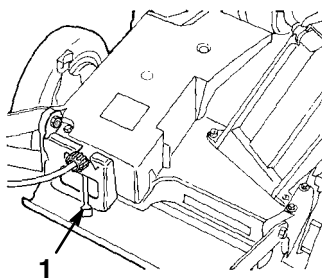

Figure 10
4. Move the ground speed control to the  (*Neutral*) position (Fig. 10).
The lawn mower has three ground speeds. 1 is slow, 2 is medium, and 3 is fast. The ground speed control is located at the rear of the belt cover (Fig. 10).